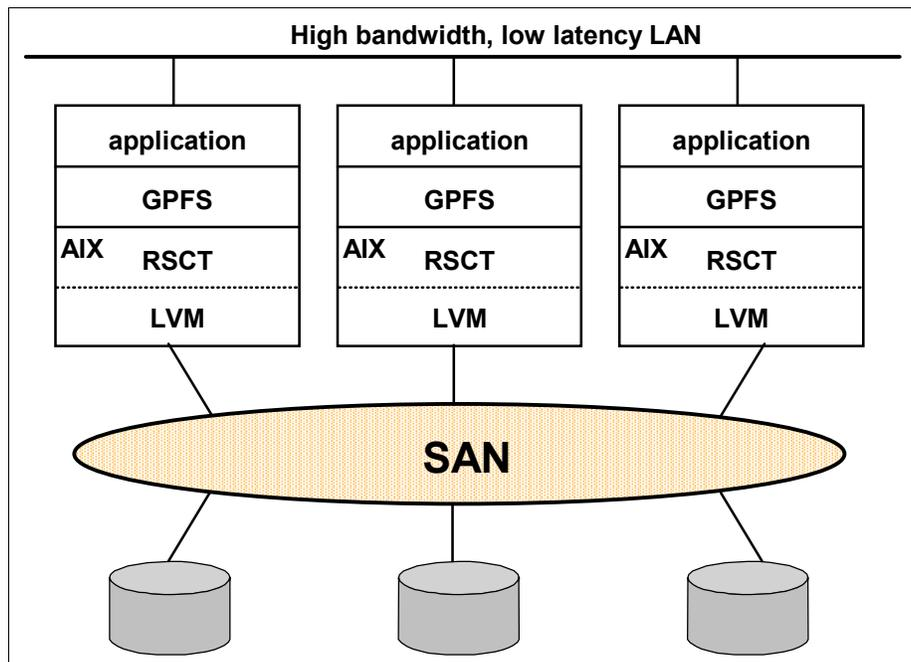

Figure 3-19 A GPFS cluster with SAN-attached disks
- ▶ Storage Attached Network (SAN) attachment of each disk to each node in the GPFS nodeset. The attachment can be via Serial Storage Architecture (SSA) or switched Fibre Channel. See Figure 3-19. Disks attached in this manner are formatted into logical volumes for use by GPFS via the `mmcr1v` command.